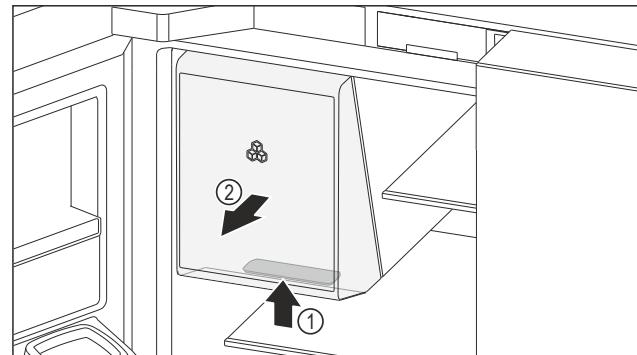

Fig. 160 Removal of ice storage compartment
- Reach the recessed grip Fig. 160 (1) at the bottom of the ice storage compartment and pull out the ice storage compartment forwards at the same time Fig. 160 (2).